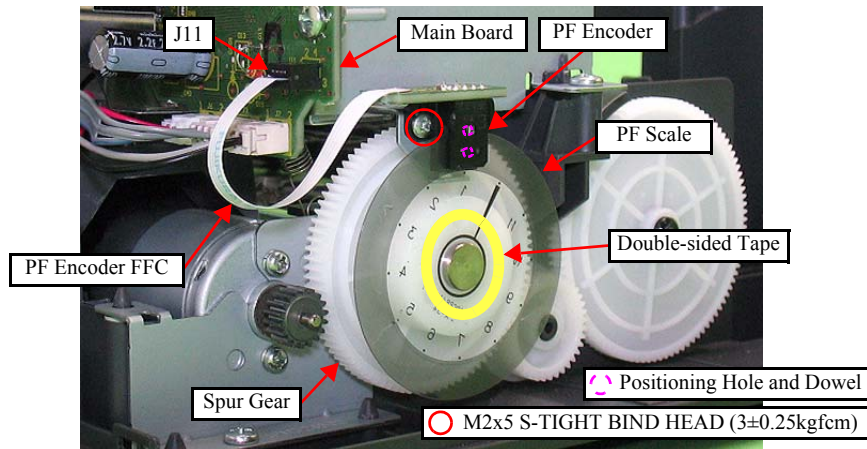

Figure 4-40. Removing the PF Encoder/ PF Scale
- When installing the PF Encoder, be sure to align the dowels in the rear side of the PF Encoder with the positioning holes of the PF Motor. (See Fig.4-40.)